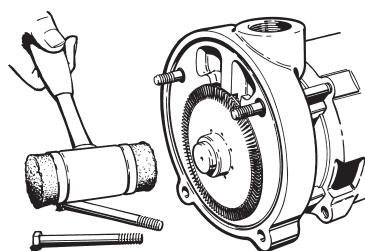

Figure 4-1
2. Remove the two (2) nuts (#20), and the two (2) 3/8" X 4" bolts (#19) from the cover (#2).
4. Remove the impeller (#11), refer to Figure 4-1. The impeller is a slip fit and, under normal conditions, can be removed by gently tapping on the end of the shaft sleeve with a mallet. Leave the impeller key